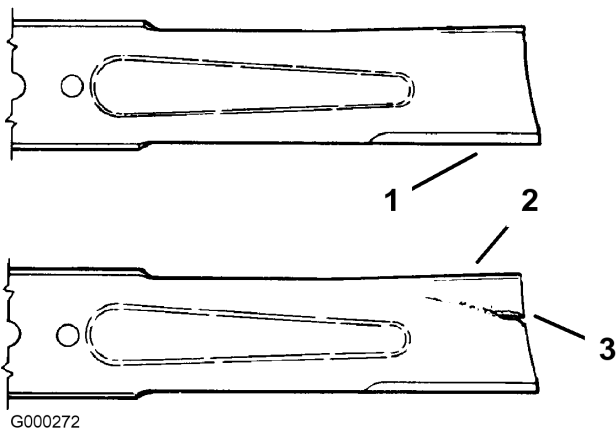

Figure 55
1. Inspect the cutting edges (Figure 55). If the edges are not sharp or have nicks, remove and sharpen the blades. Refer to Sharpening the Blades.
2. Inspect the blades, especially the curved area (Figure 55). If you notice any damage, wear, or a slot forming in this area (item 3 in Figure 55), immediately install a new blade.